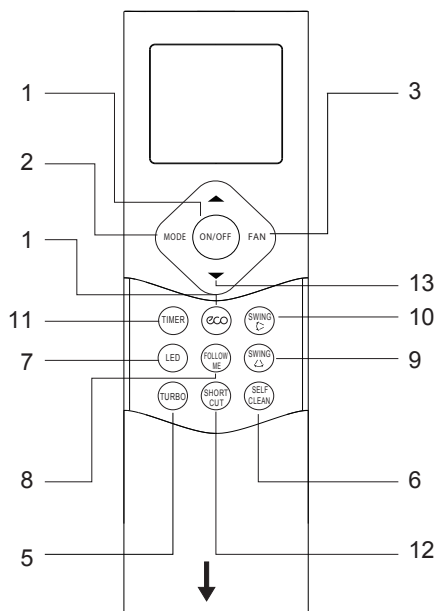

fig. 1 -
The remote control ("fig. 1 -") has a series of keys and a display which visualizes all the activated functions and the various parameters the user and installer need in order to correctly use the unit itself.
- SWING mode** (nothing is shown on the remote, the indoor unit display shows the text "ON" for 3 seconds when the mode is activated, "OF" for 3 seconds when the mode is deactivated). The automatic movement of the air flap is activated by pressing the "SWING" button. Keep pushed the "SWING" button (part. 9 "fig. 1 -") to activate automatic movement of the flap. Push once the "SWING" button (part. 9 "fig. 1 -") button to adjust the position of the flap by 6°.
- Key lock.** Pressing the "TURBO" (part. 5 "fig. 1 -") and "SELF CLEAN" (part. 6 "fig. 1 -") buttons simultaneously for one second activates / deactivates the remote control keypad lock.
- Shortcut Function.** Memorizes the current settings and enables to recall them rapidly. Push the "SHORTCUT" (part. 12 "fig. 1 -") button for 2 seconds to save current settings. Push the "SHORTCUT" (part. 12 "fig. 1 -") button to recall the saved settings.